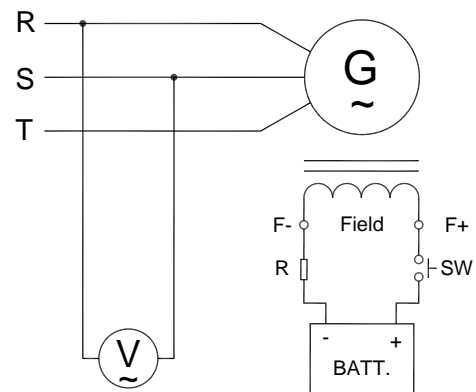

Figure 6 Manual Field Flash
- 5.2.1 Shut down generator, disconnect the wiring between AVR and generator then flash the field. Flashing duration = 3 seconds. (See wiring in Figure 6)
- 5.2.2 Restart generator and measure the residual voltage by AC Voltmeter, if it is still less than 5 Vac, repeat the previous process, after several times, the residual voltage still cannot be built, Kutai EB500 is strongly recommended, see Figure 6.